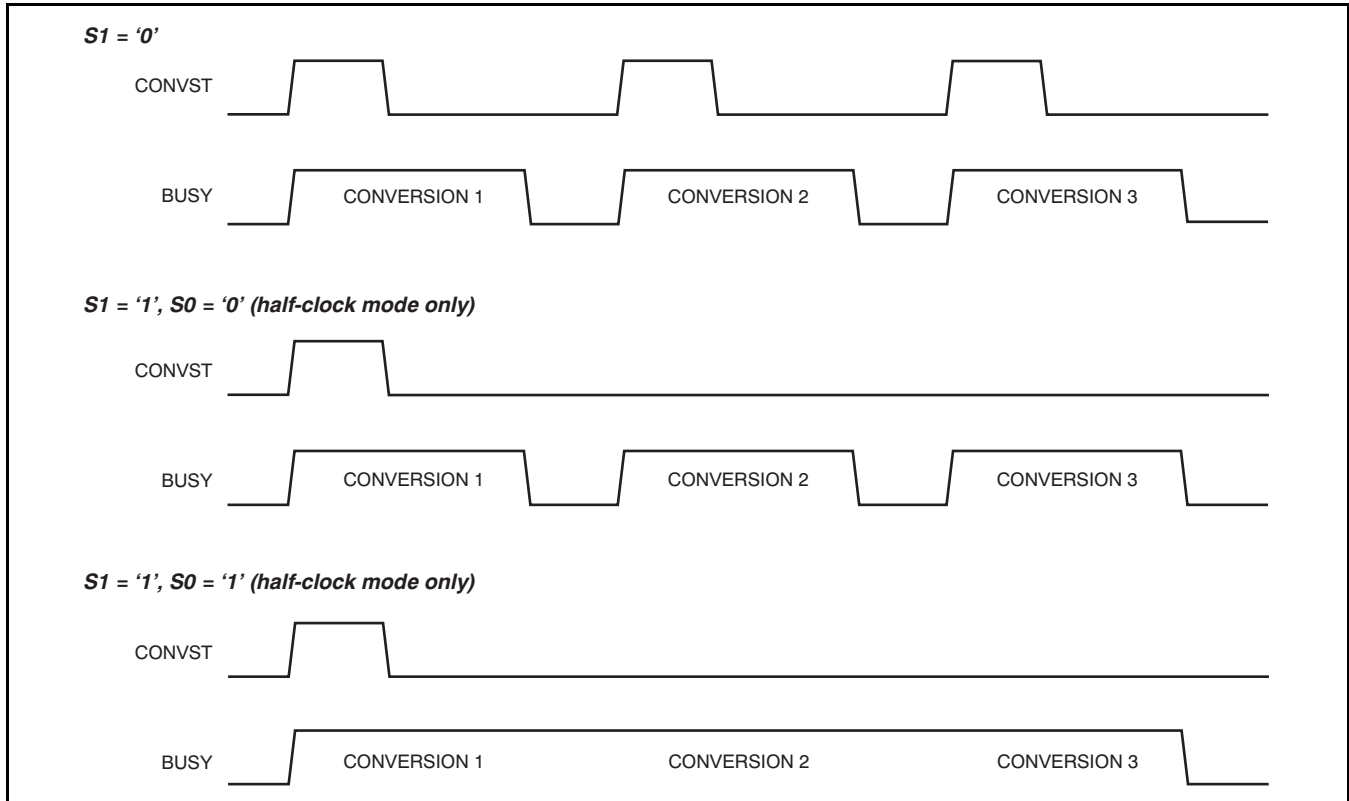
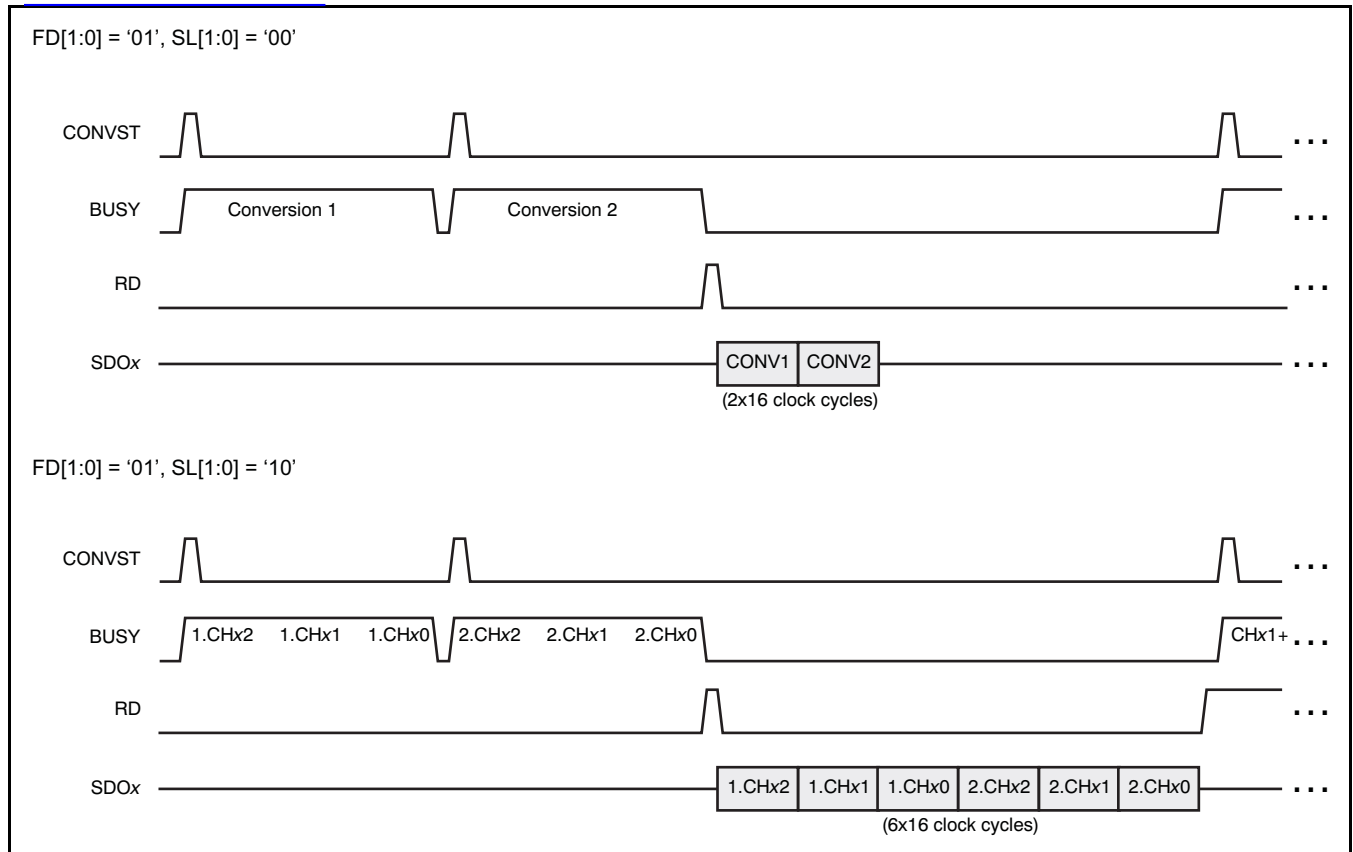

Figure 32. Sequencer Modes
Figure 33. FIFO and Sequencer Operation Example
The ADS8363/7363/7223 feature a programmable sequencer that controls the switching of the ADC input multiplexer in pseudo-differential, automatic channel-selection mode only. When used, a single read pulse allows reading of all stored conversion data. A single CONVST is required to control the conversion of the entire sequence. If the sequencer is used, CONVST and RD must be controlled independently (see Figure 32 and Figure 33).
(1) The sequencer is used in pseudo-differential mode only; this register should be set before setting the REFCM register.
- Bits[15:14]** **S[1:0]—Sequencer mode selection (see Figure 32) in pseudo-differential mode only.**
- Bits [1:0]** **FD[1:0]—FIFO depth control (see Figure 33).**